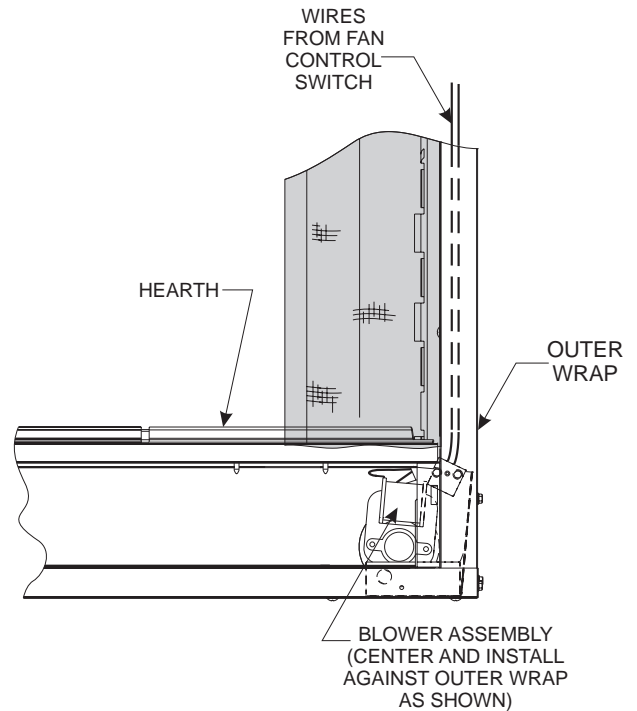

Figure 26
**NOTICE:** On peninsula models, the blower must be installed at the end which has the brick panel installed. Position blower assembly so that you align the notch on back of blower assembly with the center screw on side/end panel, then push the blower assembly against firebox outer panel. The blower wheel must be centered with the side/end wall of the firebox. The magnets on the back and bottom of blower assembly will sufficiently hold blower assembly in place. **See Figure 26.**
8. To complete the installation, plug the power cord into the junction box receptacle previously installed in the bottom of the fireplace. **See Figure 26.**